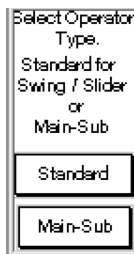

Fig. 3
3. For GT-01 software prior to Ver. 3, the screen in Fig. 3 will display. Choose either 'Standard' or 'Main/Sub' operator. For Ver. 3 of the GT-01 software, the screen in